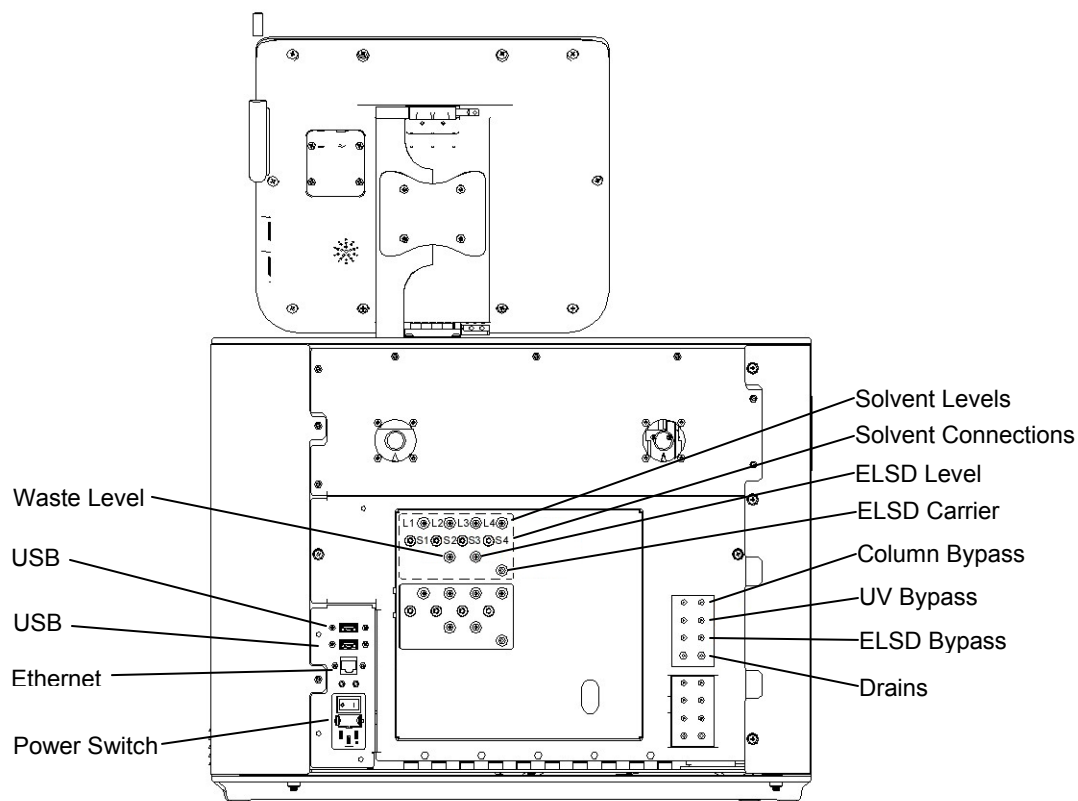

Figure 2-2: Rear Panel
1. Plug the power cord provided with the unit into the power module on the back panel of the Reveleris™ instrument (Figure 2-2) and plug the power cord into the mains. The system automatically detects the input voltage (85-265V).
Connect all solvent lines and the solvent level lines to the manifold on the rear panel (Figure 2-2).
- *Connect the exhaust on the rear panel (Figure 2-2) to a fume hood. Install a condensate trap in the exhaust line to prevent solvent condensate from being pulled into the ventilation system.*